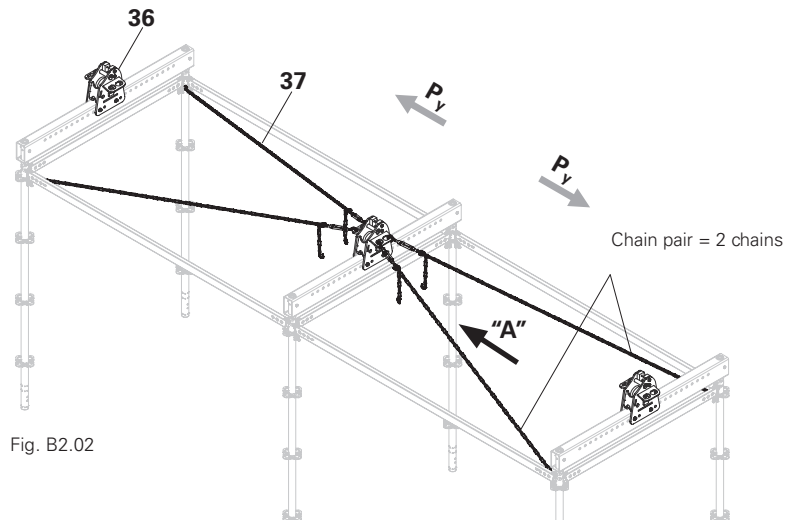

Fig. B2.02
- marries up with the load-bearing substructure, see Fig. B2.02.